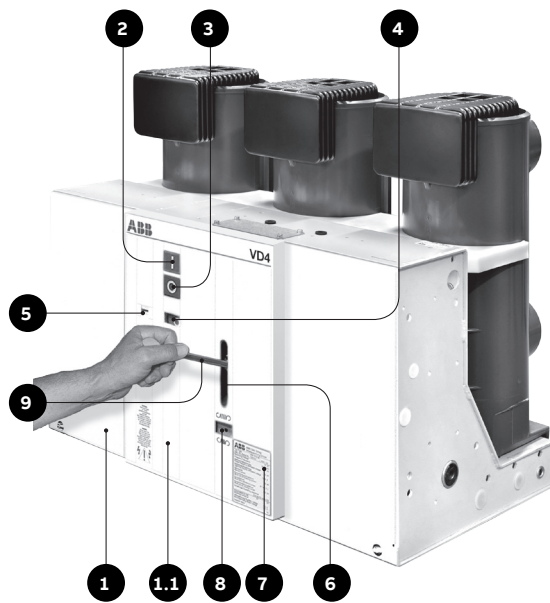

Figure 4/1: Circuit breaker front with controls and annunciations
4.4.3 Releases, blocking magnet and auxiliary switches (Figures 4/1, 4/5, 9/1, 9/2, 9/3)